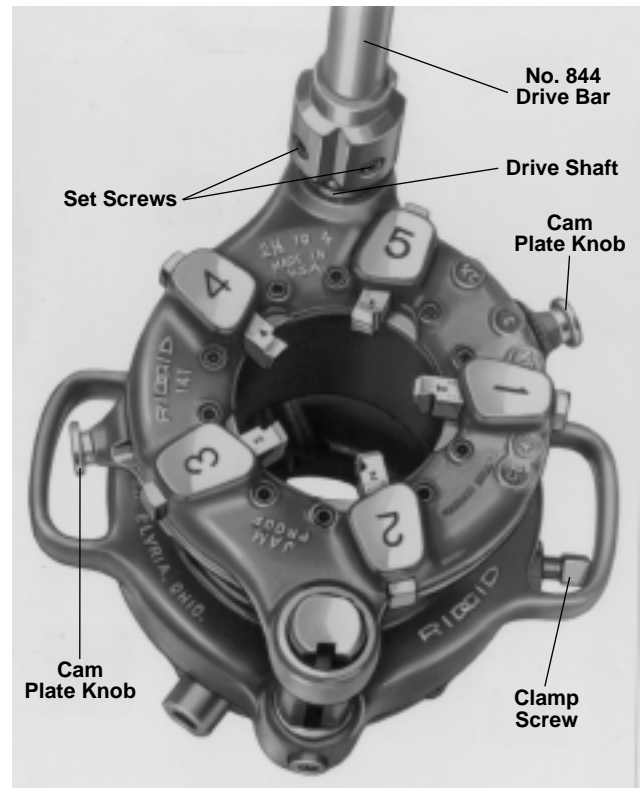

Figure 21 – No. 141 Geared Threader with No. 844 Drive Bar Installed
2. Pull knobs (Figure 21) of cam plate and rotate cam plate to desired pipe size marking on top of die head. Release knobs when locating pins drop into hole in selector plate.
2. Pull Knobs (*Figure 21*) and rotate cam plate to CD mark on top of die head.
3. Remove worn die set (*Figure 21*) and insert new die set.